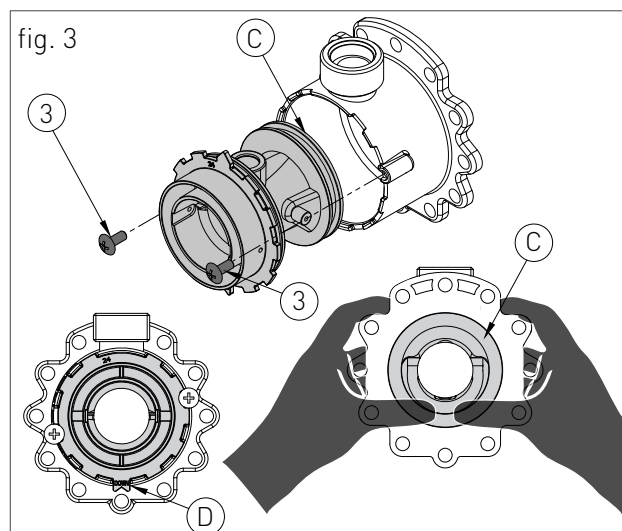

fig. 3
- › remove the two screws '3' (fig.3) and apply pressure on the rear side of venturi 'C' (fig.3);
- › replace the body venturi with the one suitable for the type of supply gas (cod. 30-00424 for methane / cod. 30-00426 for GPL) and make sure the tooth 'D' (fig.3) is adjusted downwards on the aluminium ring nut (see fig.3);